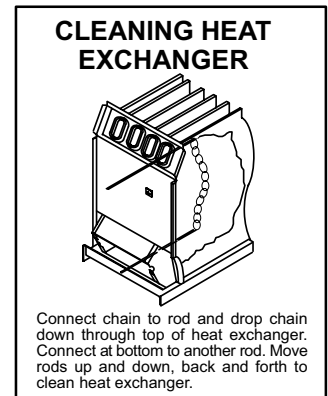

FIGURE 20
- 8 - Insert a 2 ft. steel rod with a 20 in. length of chain attached to one end into top opening of heat exchanger. Refer to figure 20.